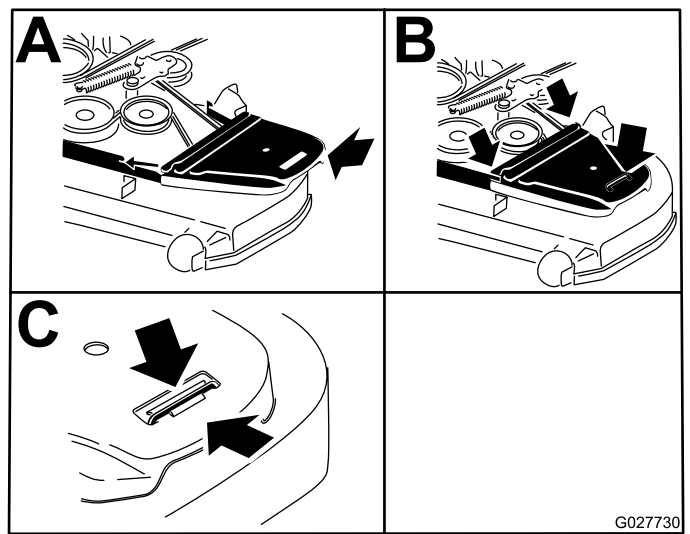

Figure 92
13. Install the belt covers (Figure 92).